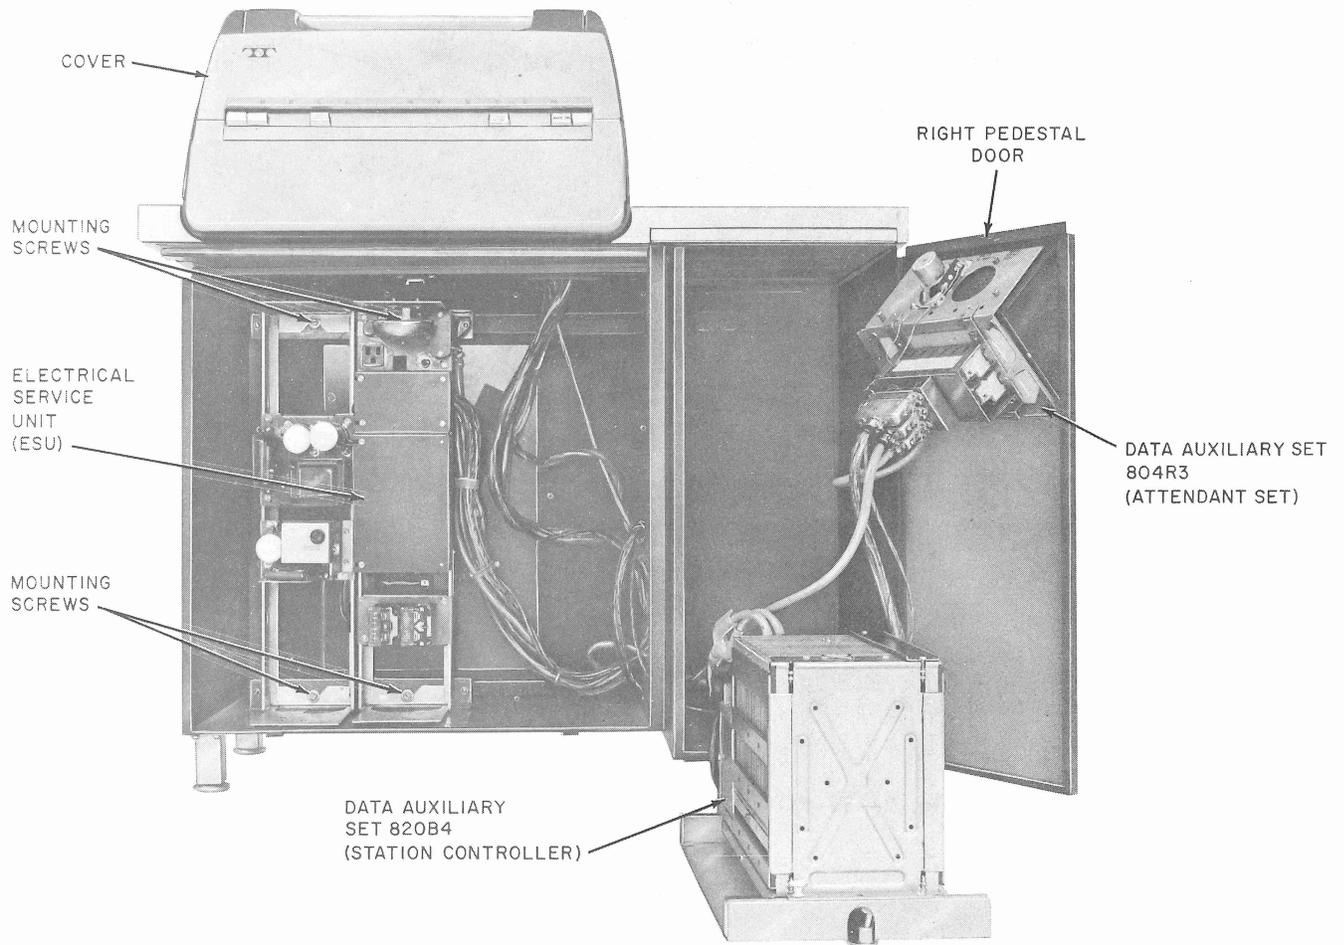

Fig. 1—37 RO Teletypewriter Data Station
1.01 This section describes the procedures to be followed when the disassembly and reassembly of a 37 Teletypewriter (TTY) Receive Only (RO) data station is required (Fig. 1).
- (3) Open front panel by depressing catch while pulling panel slot forward (Fig. 1).
- (4) Grasp front panel by the sides and carefully lift front panel to disengage the hinge.
- (5) Open right pedestal door by depressing door catch (located in kneewell).
- (7) Withdraw cables through cable entry slot of TTY into kneewell area.
- (8) Remove four mounting screws securing ESU to TTY table (Fig. 1).
- (9) Remove the ESU.
- (1) Open the right pedestal door by depressing door catch (located in kneewell) (Fig. 1).
- (1) Open the right pedestal door by depressing the door catch (located in kneewell) (Fig. 1).